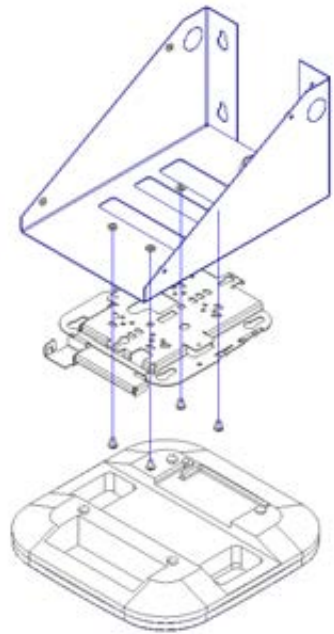

Figure 1
Step 2a (*Cisco Access Points Only*) – Securely fasten the *access point's mounting bracket* to the mount using the included (4) # 8-32 screws (Figure 1).